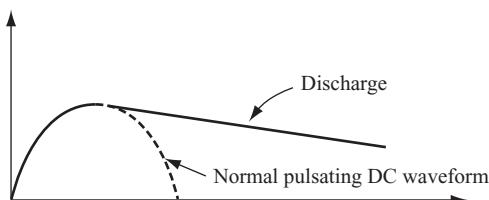

FIGURE 11.37
- 18** If no further pulses pass through the diode, the voltage level drops as the capacitor discharges, resulting in the waveform shown in Figure 11.37.